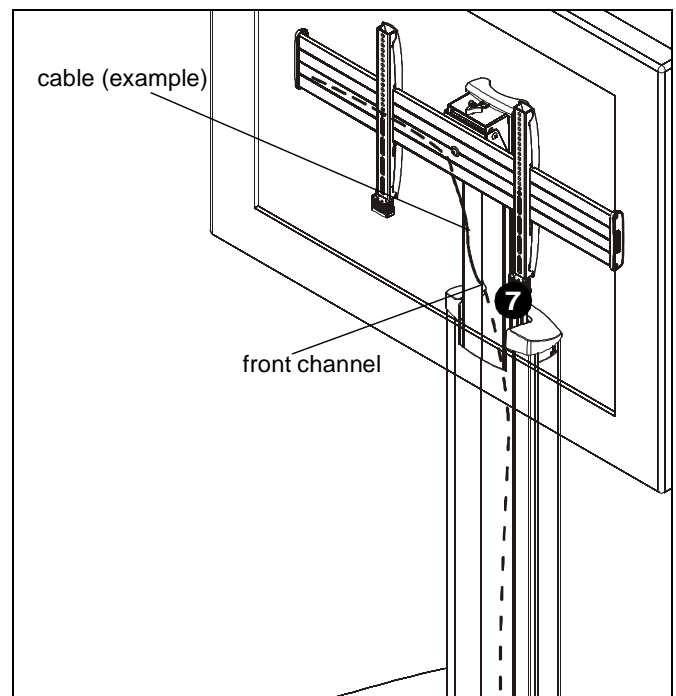

Figure 13
7. Route cables from display through front channel of column assembly. (See Figure 13)